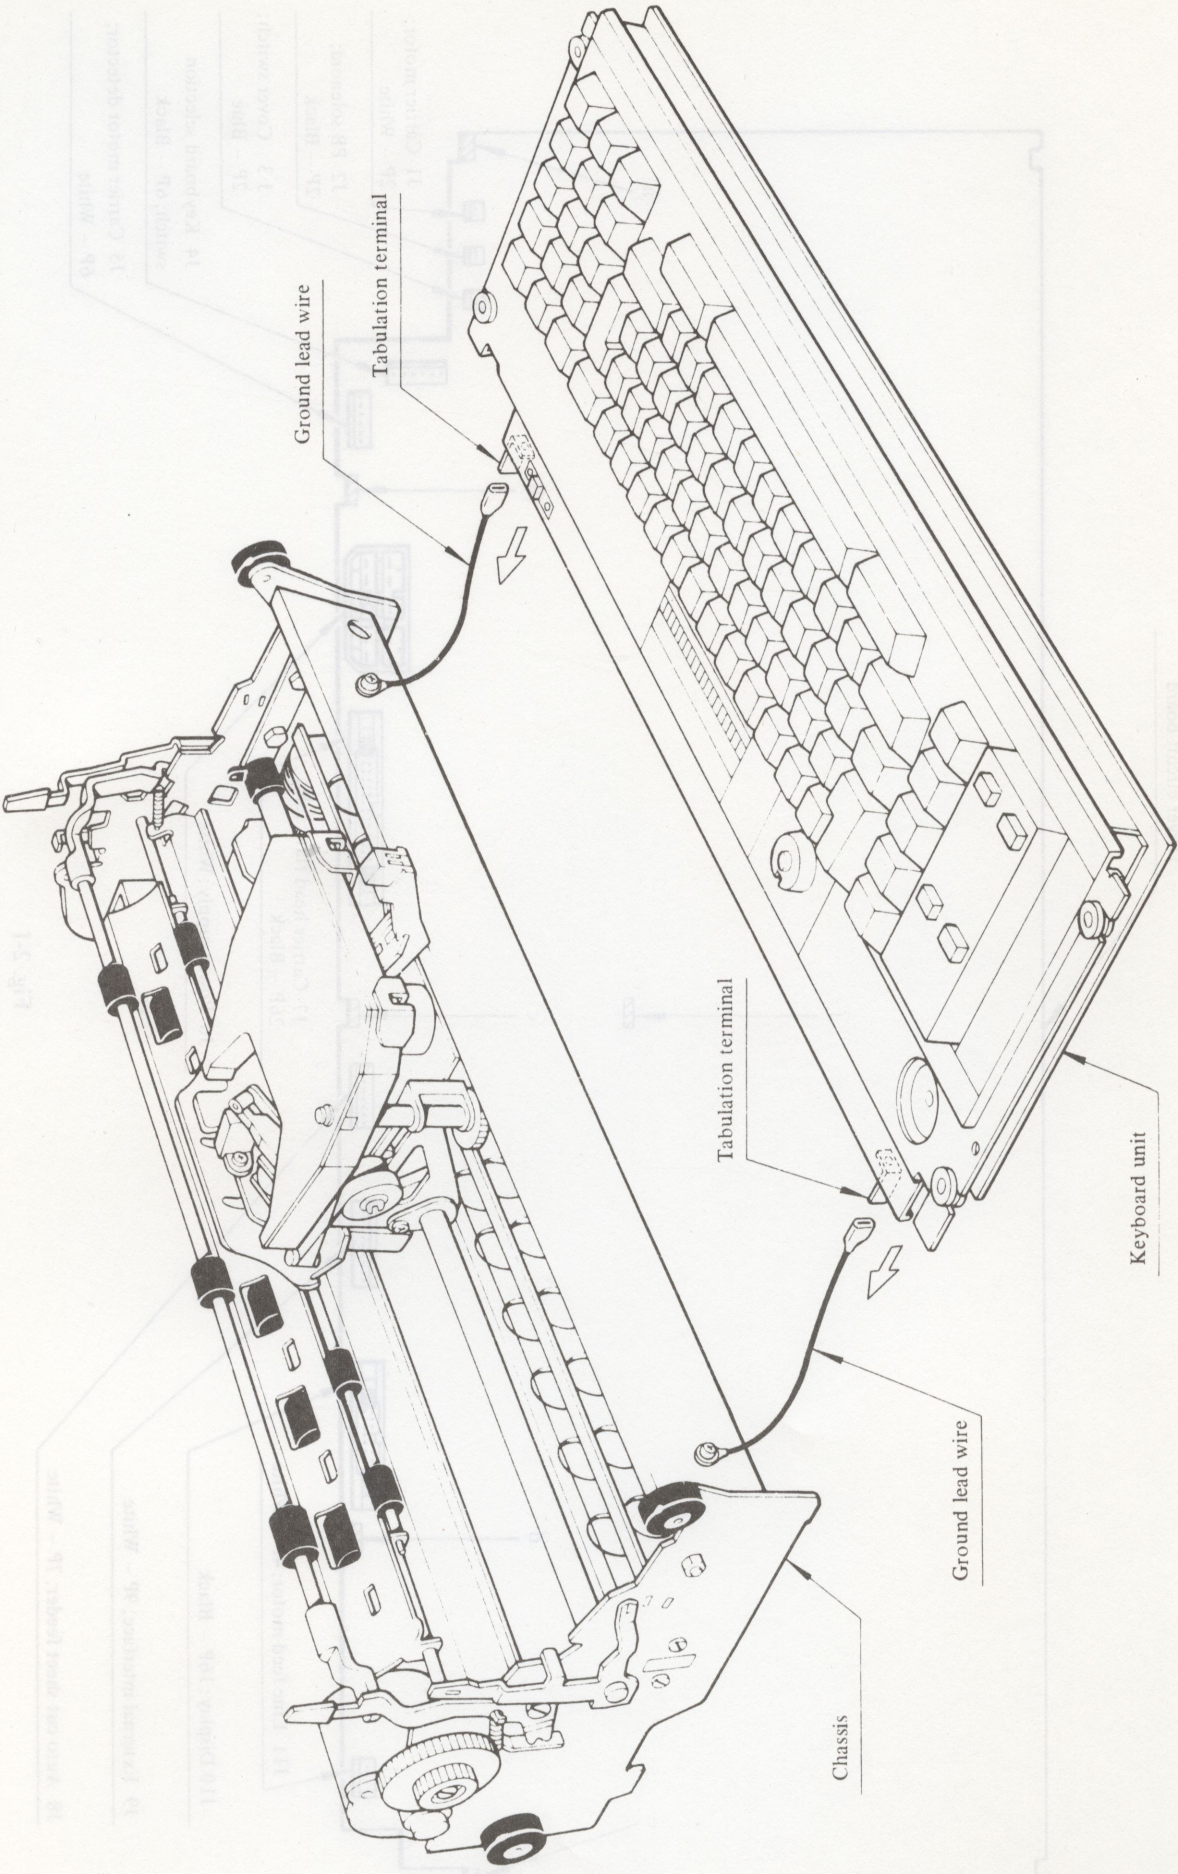

Fig. 2-2
- (3) Pull out the ground lead wire from the tabulation terminal. (Fig. 2-2)
- (4) Removal of keyboard unit